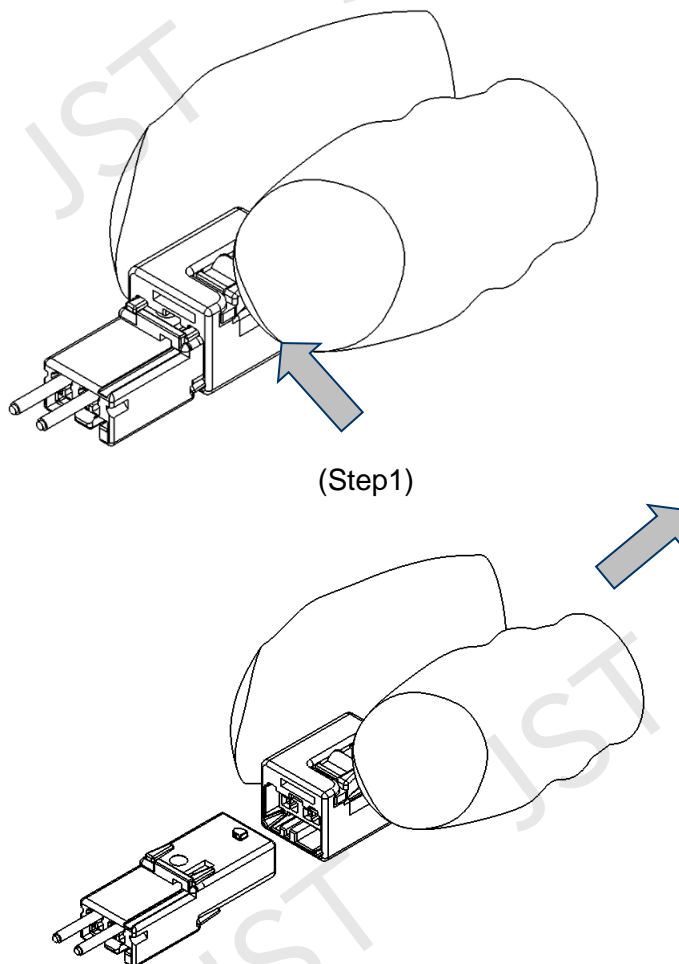

Fig. 29
- ① To release the locking mechanism, slide the female housing assembly's slider to disengage the female housing assembly (Fig. 29).
- ② After releasing the lock gently, extract the female housing assembly from the male housing assembly. Reminder, do not pull on the harnesses as it could damage the system.